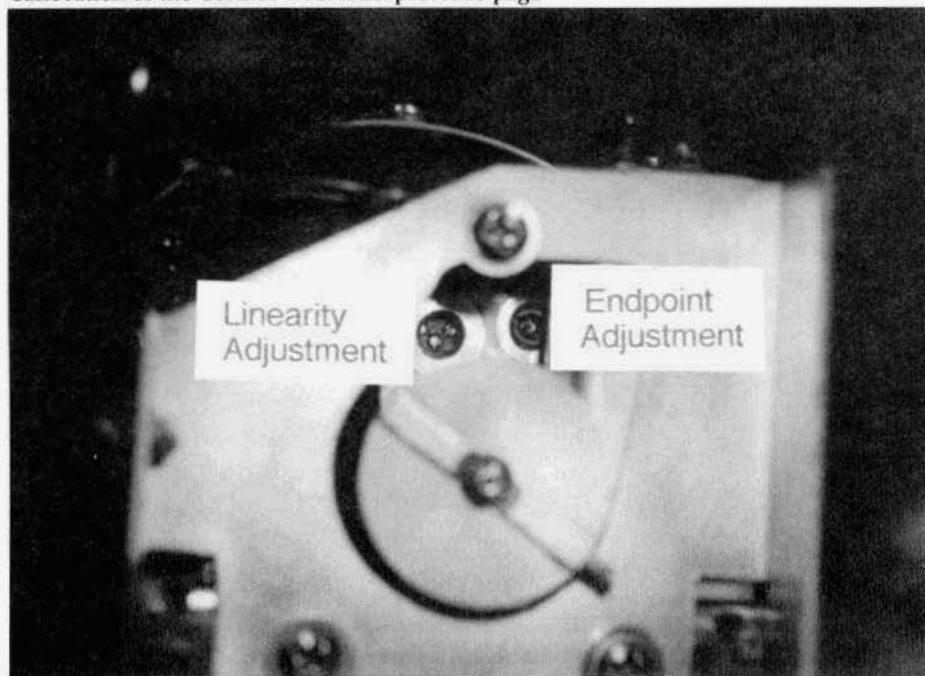

Figure 2. Cosmos PTO adjustment screws.
9. Mount the antenna switch plate on outside of R.F. cage with the #6 hardware, as shown in Fig. 2. Do not tighten yet.
16. Screw the male coax plug into the ANTENNA coax connector, as shown in Fig. 2.
Upon careful examination of the Cosmos PTO, one will find the endpoint adjustment in its usual location as described above. To the left of the endpoint screw hole will be found an additional screw cover. Underneath this second screw cover will be found a series of very small screws (see Fig 2). During clockwise rotation of the PTO shaft, this series of screws passes underneath this window from left to right. One screw will pass with every 90 degree turn (25 Kcs) of the PTO shaft. It is this series of